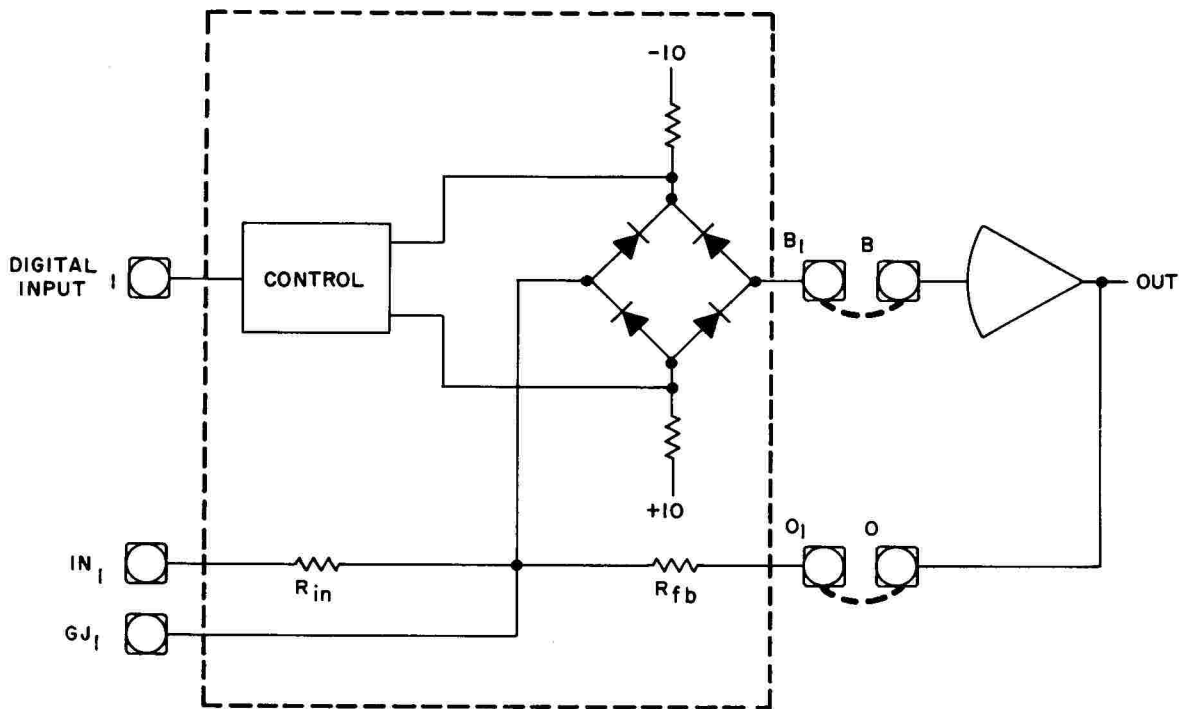

Figure 46. Electronic Switch Unit, Functional Block Diagram
(2) Electronic Switch Circuits. In addition to the comparator circuit, two electronic switch circuits are contained within the Model 40.538 Electronic Comparator. A simplified block diagram of one of the switch circuits is provided in Figure 46. The electronic switch is a four-diode bridge circuit which is actuated by a transistorized control circuit. When a binary ONE is applied to the digital input terminal, the control circuit allows an analog input to pass through the bridge to the associated output amplifier. A binary ZERO at the digital input terminal causes the control circuit to effectively clamp the top and bottom of the bridge to ground (as shown on Figure 46), thus preventing the analog input from passing through the bridge to the output amplifier. The binary ONE and binary ZERO inputs to the electronic switch circuit ordinarily are supplied by the comparator circuit, but for special applications these signals may be supplied by an external digital circuit. Patching of the switch units is described in the Appendix of the TR-20 Operator's Handbook. The patching shown in Figure 46 is strictly to show switch to amplifier patching. It assumes feedback is provided for the amplifier when the switch is cut off. This feedback could be provided by another switch unit, driven by the complement of the signal assumed to be driving the switch of Figure 46.